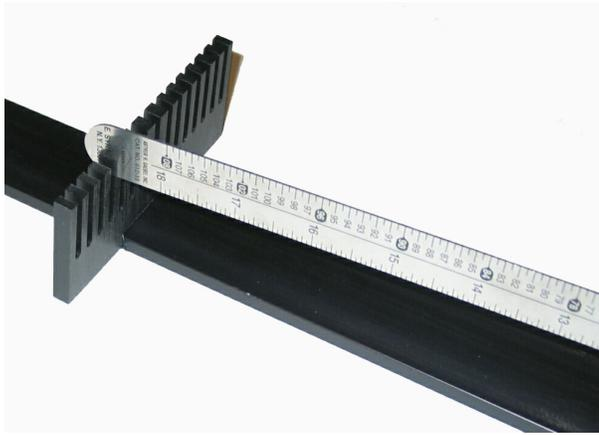

Figure 4.5: Flexible Link Tip Displaced by 1 inch in the Counter-clockwise Direction
4. The strain gage should read 1 V per 1 inch of tip deflection. Each slot or tooth in the calibration comb corresponds to a tip displacement of $\frac{1}{4}$ inch. Move the tip 4 slots in the counter-clockwise direction as shown in Figure 4.5. The strain gage measurement should be reading 1 V. If not, gently adjust the **GAIN** potentiometer until it reads 1 V.